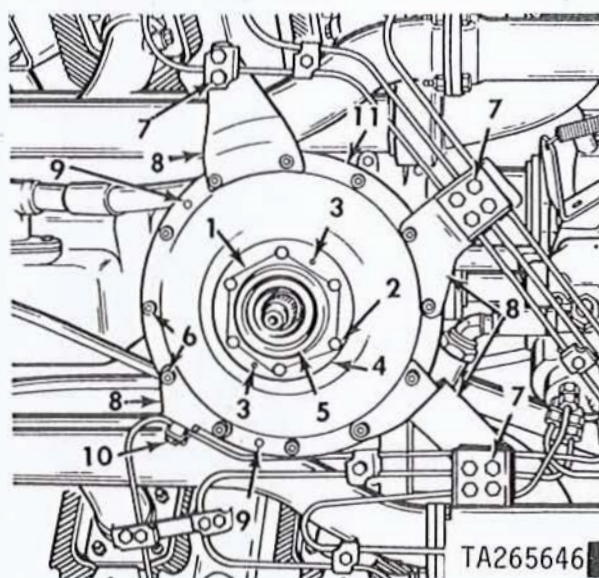

Figure 2-113. Removing or installing fan drive oil seal and clutch bearing.
(1) Remove cooling fan vane and cooling fan. Refer to paragraph 2-21a.
(2) Cut locking wire (1, fig. 2-113) and remove six machine bolts and flat washers (2). Install two mechanical pullers, Part No. 5739997 in screw holes (3). Turn pullers alternately and remove oil seal (4).
(1) Press ball bearing into fan drive housing cover and install cover on vertical drive shaft. Install new preformed packing on fan drive housing cover.
(2) Install assembled fan drive housing cover (11, fig. 2-113) and clutch assembly on fan drive housing. Position fuel injector tube clamp brackets (8), on fan drive housing cover as shown in figures 2-113 and 2-114, and secure housing cover and brackets with twelve self-locking nuts (6, fig. 2-113). Install associated plates and clamps and secure with ten self-locking nuts and machine bolts (7) and two self-locking bolts (10).